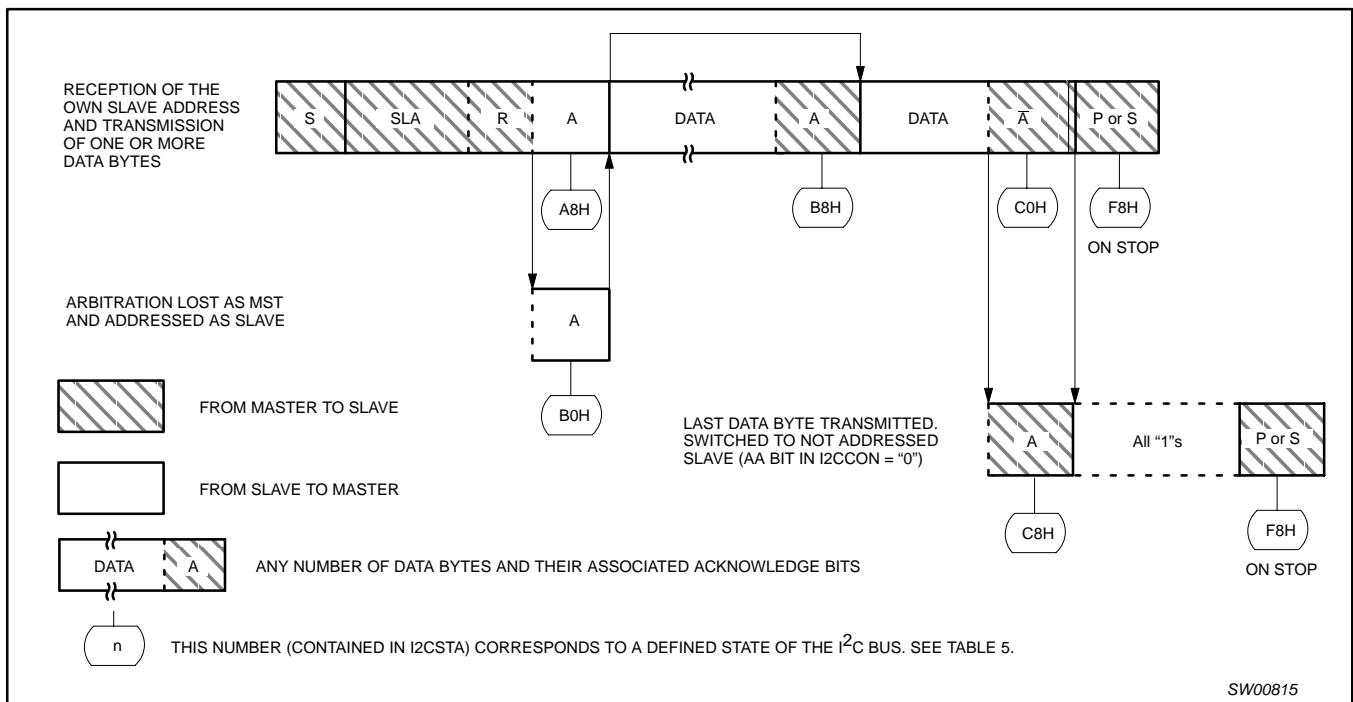

Figure 5. Format and states of the slave transmitter mode
When SIO is in the addressed slave transmitter mode, state C8H will be entered after the last serial is transmitted (see Figure 5).
**Slave Transmitter Mode:** In the slave transmitter mode, a number of data bytes are transmitted to a master receiver (see Figure 5). Data transfer is initialized as in the slave receiver mode. When I2CADR and I2CCON have been initialized, SIO waits until it is addressed by its own slave address followed by the data direction bit which must be "1" (R) for SIO to operate in the slave transmitter mode. After its own slave address and the R bit have been received, the serial interrupt flag (SI) is set and a valid status code can be read from I2CSTA. This status code is used to vector to an interrupt service routine, and the appropriate action to be taken for each of these status codes is detailed in Table 5. The slave transmitter mode may also be entered if arbitration is lost while SIO is in the master mode (see state B0H).